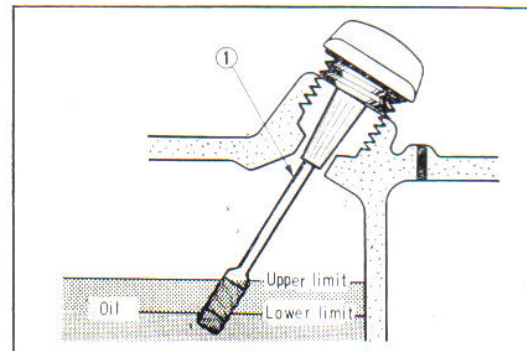

Fig. 6.32
- c. If the oil level is between lower and upper limits on the oil gauge, with the filler cap not threaded in but just inserted, it is correct (Fig. 6.32)